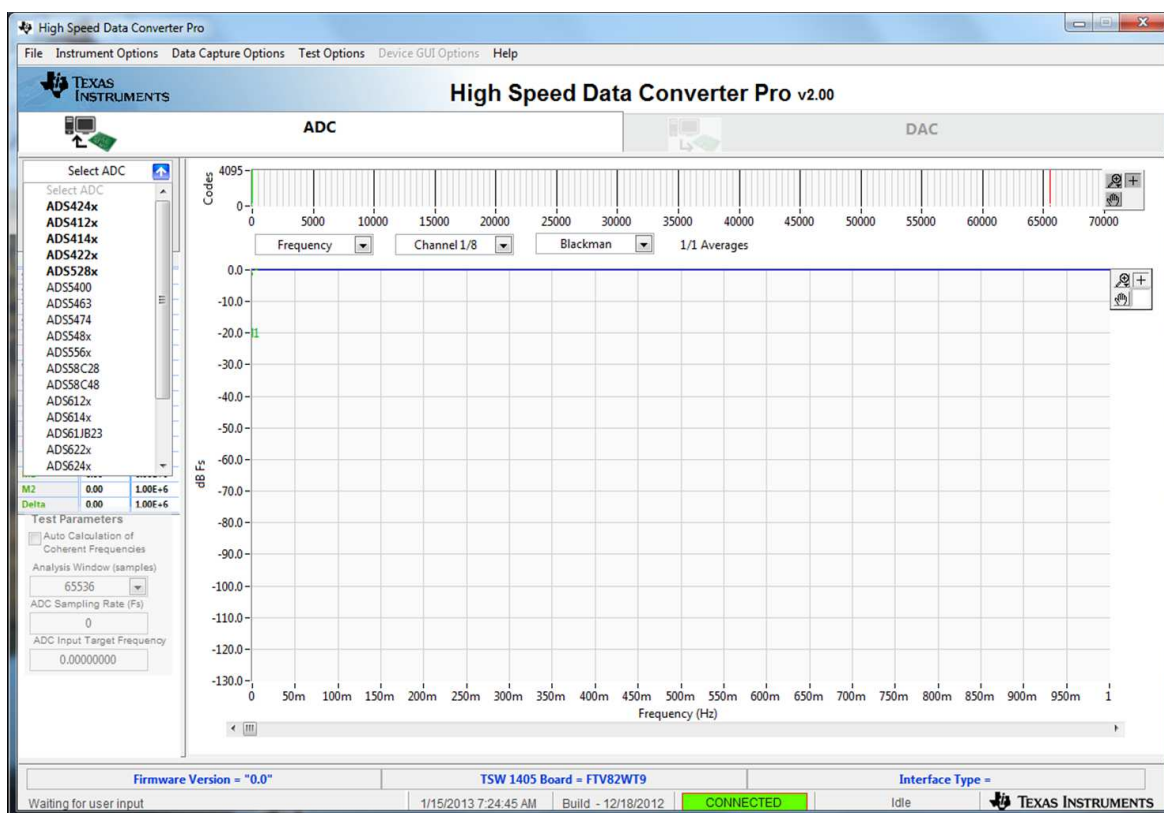

Figure 10. Selecting Device Firmware
- In the Select ADC box, click on the drop-down arrow. A new window opens. Select *ADS424x*, as shown in Figure 10.